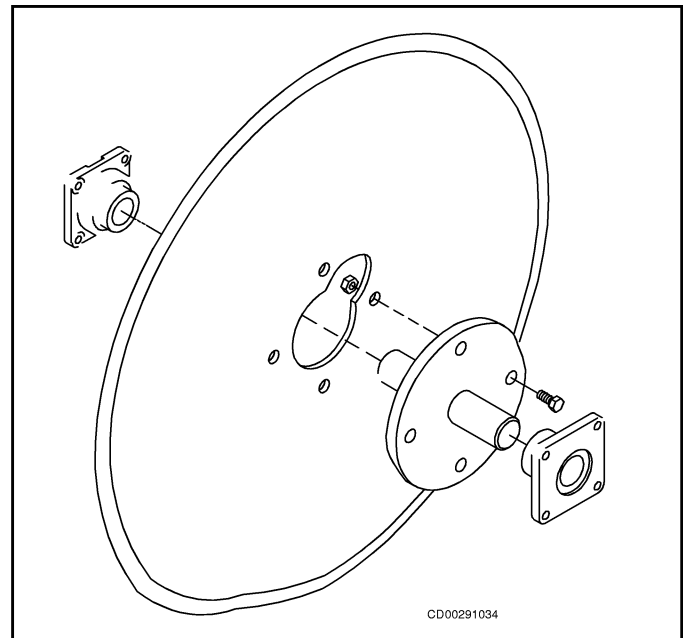

Figure 26 Mounting Coulter Disc
1. Fasten hub assembly to disc, using 3/8 x 1-1/4" hex bolts, lock washers, and hex nuts as shown in Figure 26.